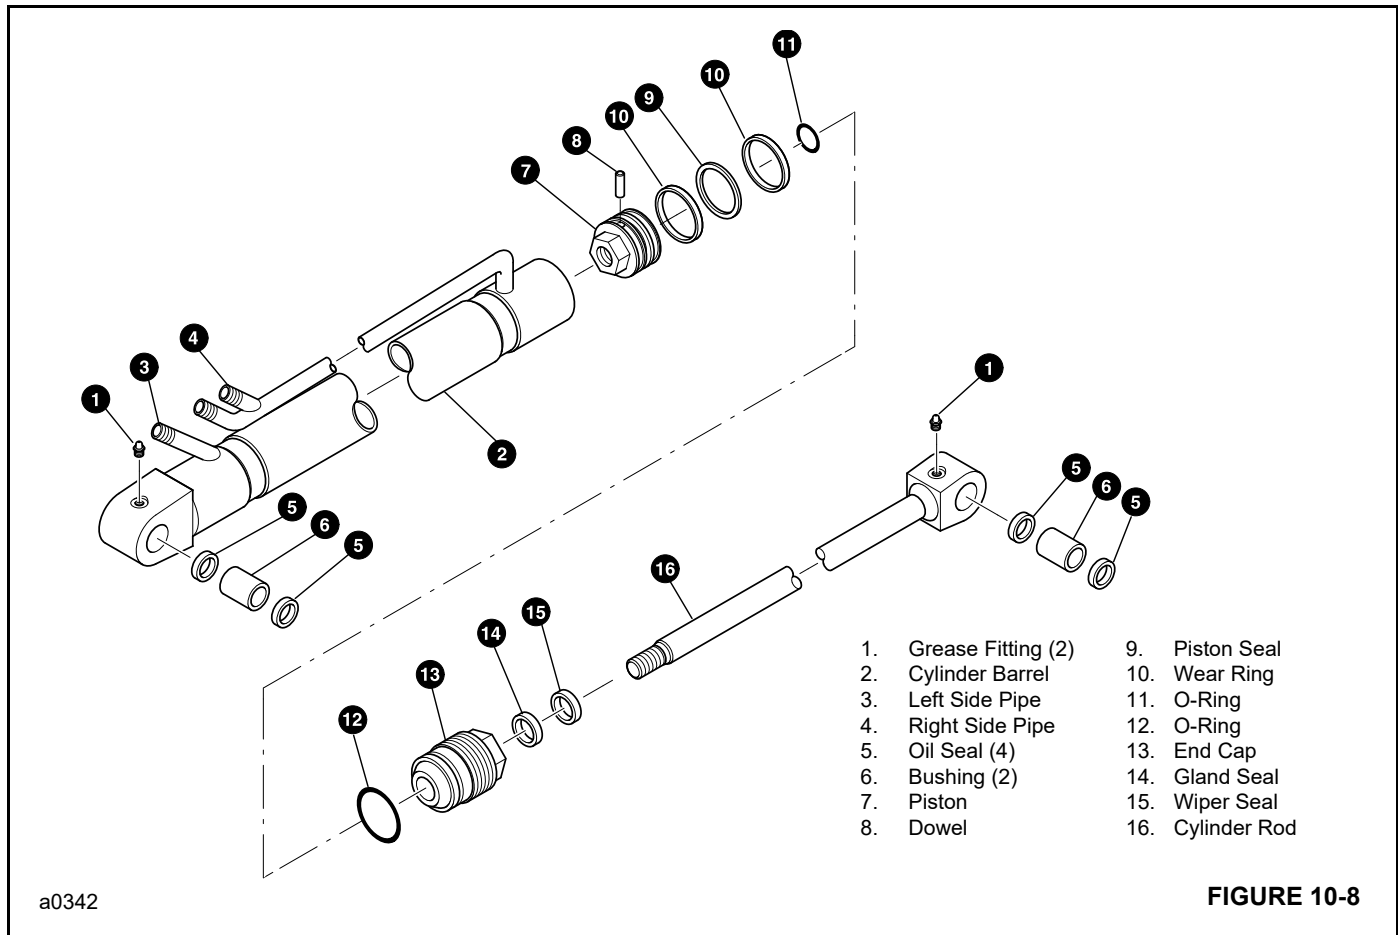

FIGURE 10-8
3. Loosen end cap **13** Figure 10-8 using a special spanner wrench (See Special Tools, above) and remove the piston rod assembly **16** from the cylinder barrel.
1. Install new gland seal **14** Figure 10-8 using the special installation tool as follows:
2. Install a new wiper seal **15** Figure 10-8 and new O-ring **12** to end cap **13**. The lip of the wiper seal must be facing out.
- b. Remove all debris and contamination. Insert dowel **8** Figure 10-8 into drilled hole. Make sure threaded extractor hole is to the outside.
- d. Remove all debris and contamination. Install dowel 8 Figure 10-8.